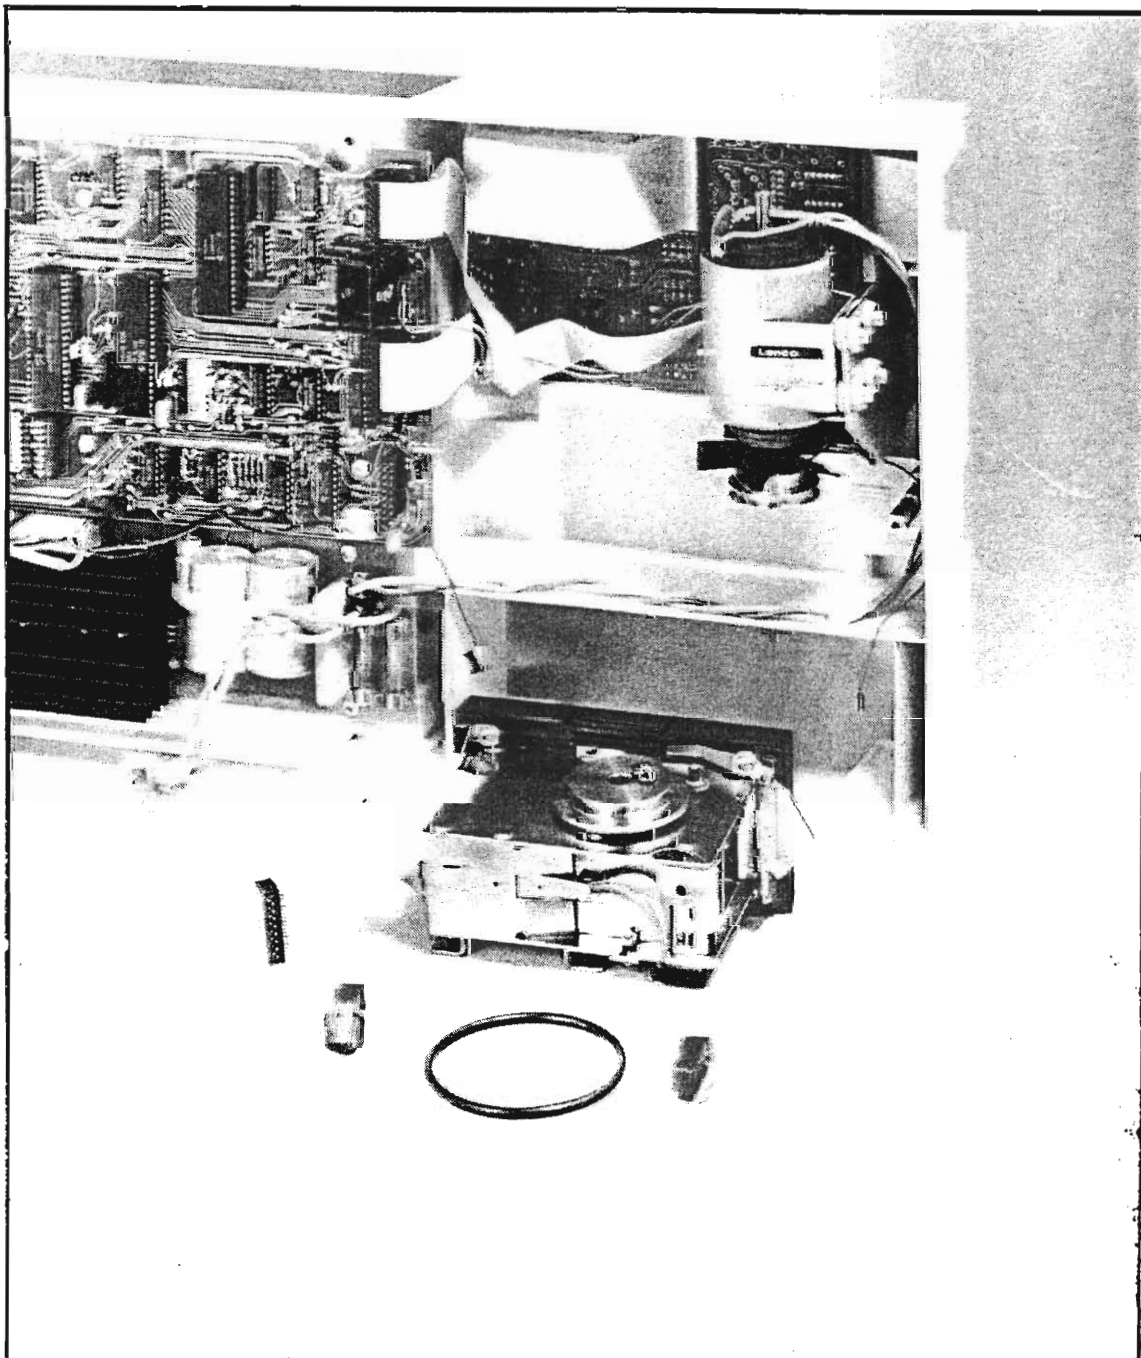

Fig. 6.2 Removing the punch mechanism
### 6.1.1.2 REMOVING THE PUNCH MECHANISM (Fig. 6.2)
- c) Unsnap the clamp, and remove the drive belt and punch mechanism (see Fig. 6.2).